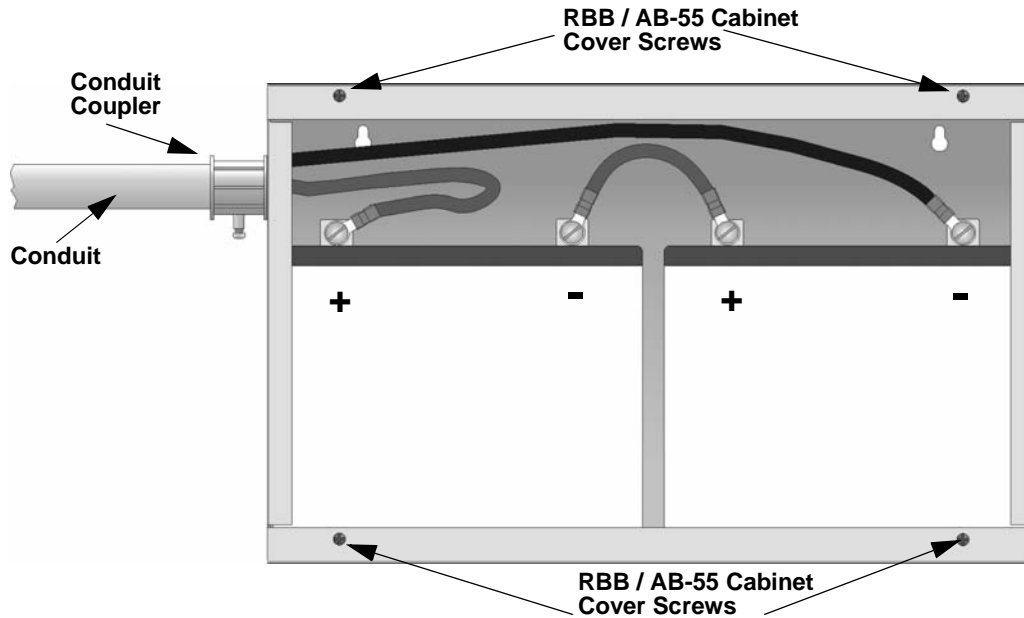

Figure 4-7 Battery Connections in the RBB or AB-55 Cabinet
3. Run extended battery cable from control panel cabinet through conduit to RBB or AB-55 cabinet. See Figure 4-7.
Note: Figure 4-7 is an example of how the wire connections can be routed. However, any other cabinet knock-outs (on either the main control panel or the RBB/AB-55 cabinet), that are not previously being used may be utilized to connect conduit between the two cabinets.
4. Connect battery leads to the backup battery terminals. See Figure 4-7.
5. Insert the RBB or AB-55 cover screws into the cover mounting holes. See Figure 4-7.